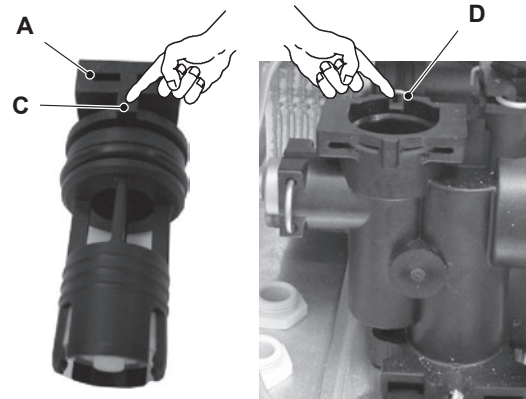

Figure 13.3
- 3 Remove the locking plate B and pull up the by-pass valve A (Figure 13.3).
Attention: when reassembling the By-pass valve be sure that it is correctly oriented by matching the reference C with the notch D of the water group Figure 13.3.